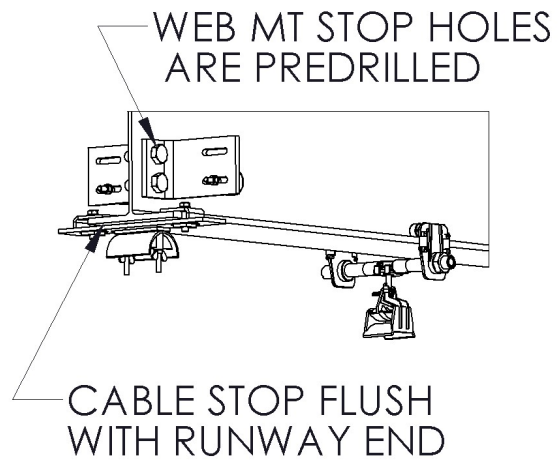

Figure 11: Runway festoon end clamp
3. Install festoon end clamp on runway beam (see figure 11)